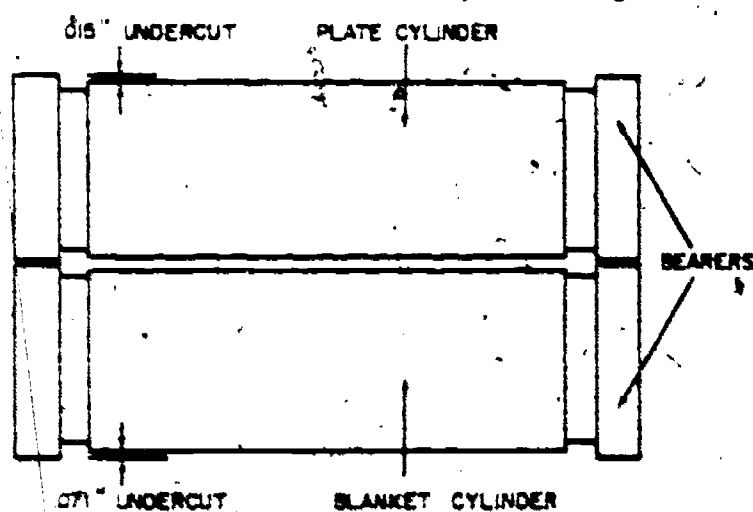

Figure 8-22. Cylinder undercuts.
Cylinder undercut	A recess of the surface of a cylinder relative to its bearer ring which allows space for the plate or blanket to be added plus any packing which might be needed (fig. 8-22).
(1) *Cylinder undercuts.* Figure 8-22 illustrates the standard undercut on the plate and blanket cylinders on the ATF Model DP press.